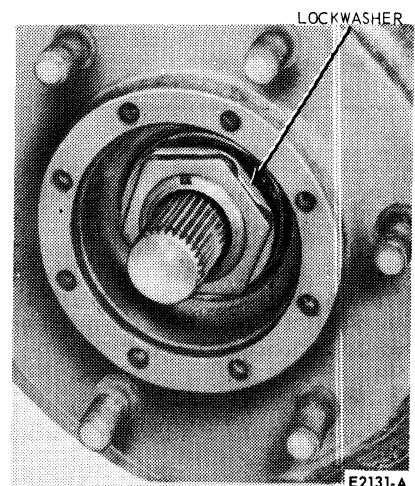

FIG. 5 Lock Nut and Washer Assembled
- Bend the tab of the lock washer away from the lock nut and remove the lock nut (Fig. 5).